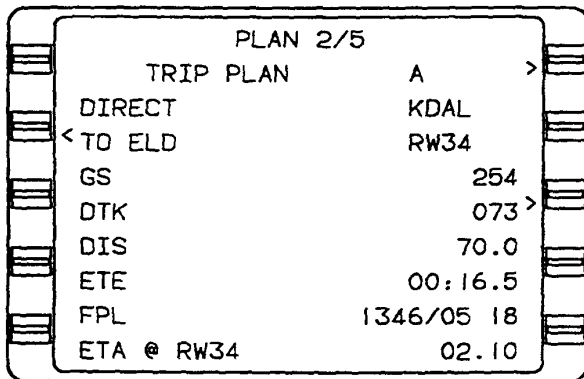

Figure 3A-39. Plan 2/5 Page, Trip Plan
(2) *Plan 2/5 Page, Trip Plan*. Refer to Figure 3A-39.